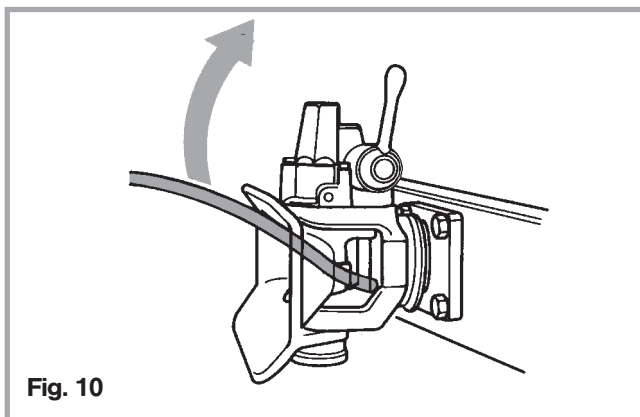

Fig. 10
- Move coupling head up and down with appropriate tool (see fig. 10):